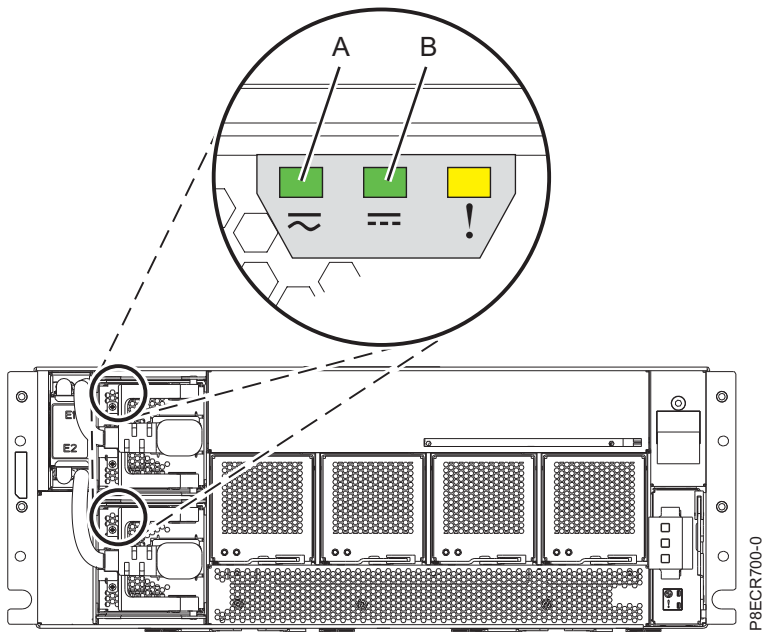

Figure 1. Power supply LEDs of an EMX0 PCIe3 expansion drawer
- The ac input LED (**A**) and the dc output LED (**B**) are on solid for at least one of the power supplies in the EMX0 PCIe3 expansion drawer. See figure 1.